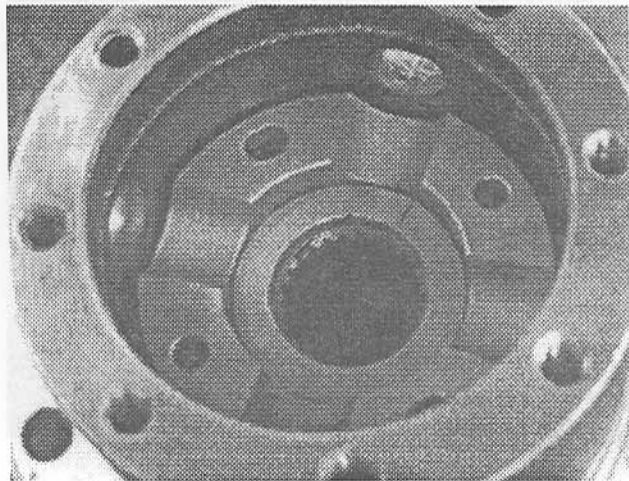

Figure 9
2. Place a driver onto the side gear in the case, with the teeth meshed, and place one of the spacers in the middle. (**Figure 9**).